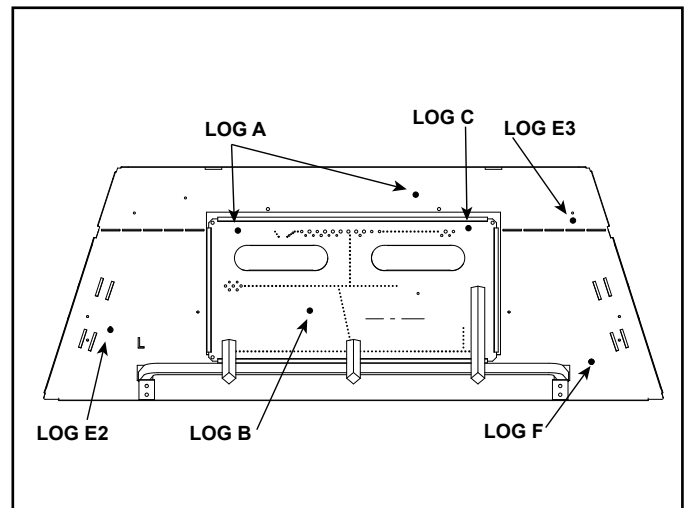
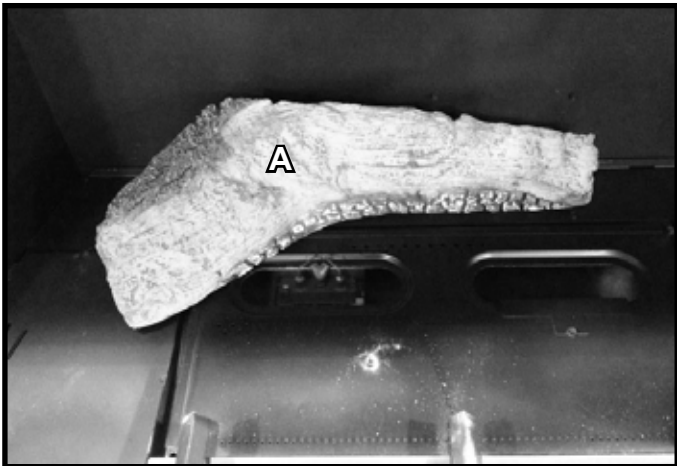
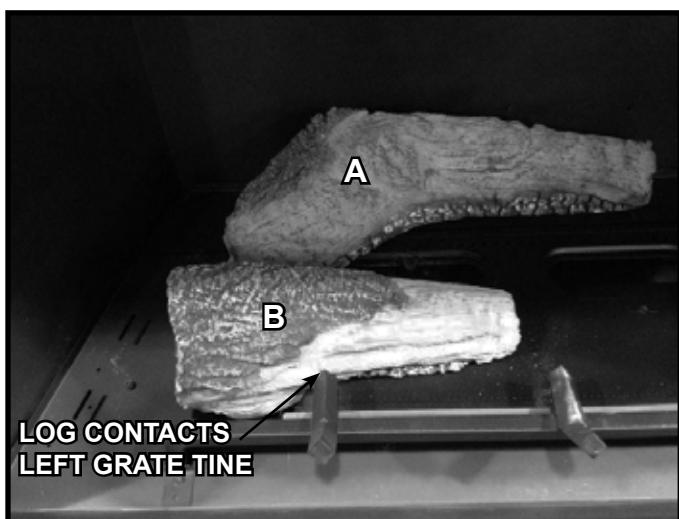
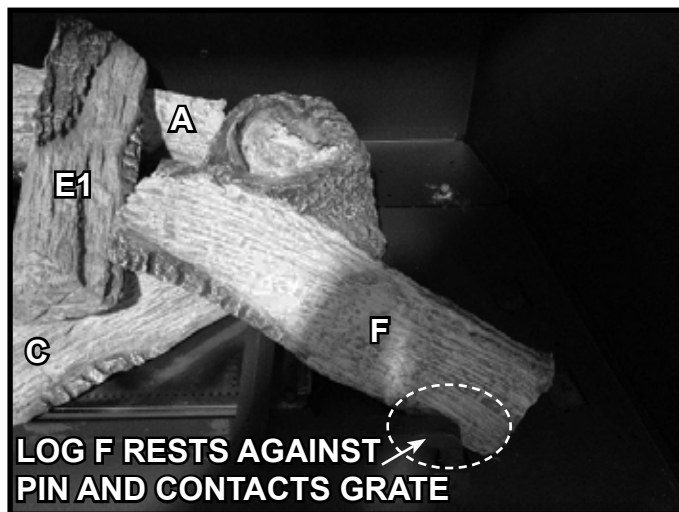

Figure 4. LOGSDBDV42 Log Pin Locations
Figure 5. Log A Installed
Figure 6. Log B Installed
Figure 10. Log F Installed
1. **(LOG A):** Locate the two pin holes on the bottom of Log A. Hold the log so that the flat spot is facing the rear of the appliance and the pin holes are facing the base pan. Place Log A over the two pins referenced for Log A in Figure 4. Refer to Figure 5.
2. **(LOG B):** Locate the pin hole on the bottom of Log B. Place pin hole on Log B over the pin referenced for Log B in Figure 4. Hold the log over the pin and rotate the left side of the log until it contacts the left grate tine. See Figure 6.
6. **(LOG F):** Place Log F into appliance as shown in Figure 10. The burned out end of the log should rest on Log C and contact Log E1. The unburned end of Log F should rest against log pin F, as shown in Figure 4, and contact the back of the lower grate tine as noted in Figure 10.